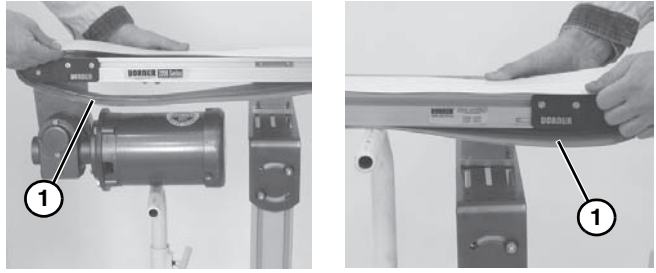

Figure 24
- Remove belt (**Figure 24, item 1**) from conveyor.